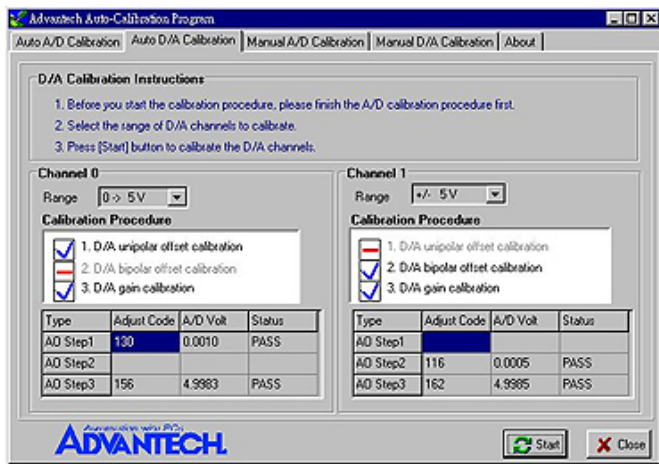

Figure 6-12: D/A Calibration is finished
Step 12: Auto-calibration is finished (Fig. 6-12)